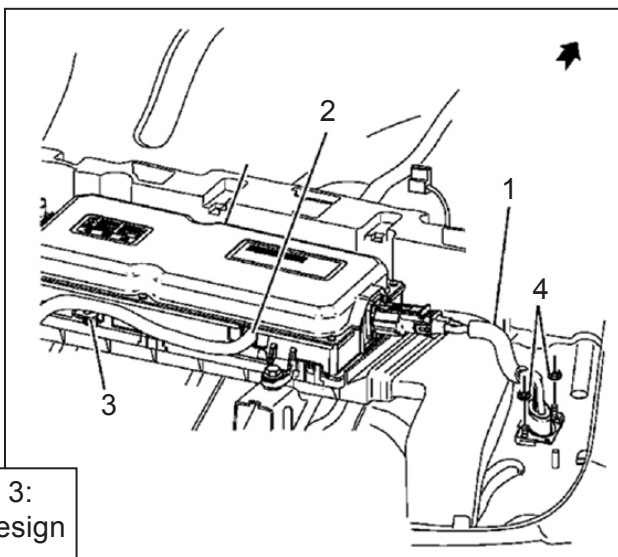

Figure 3:
- 2.1 Connect Battery Positive and Negative Cable Assembly (300 V) (1) to Accessory DC Power Control Module header connector. Install CPA. **See Figure 3.**
- 2.3 Tighten Battery Positive and Negative Cable Assembly (300 V) fasteners (4) to 9 Nm (80 lb.in.) **See Figure 3.**